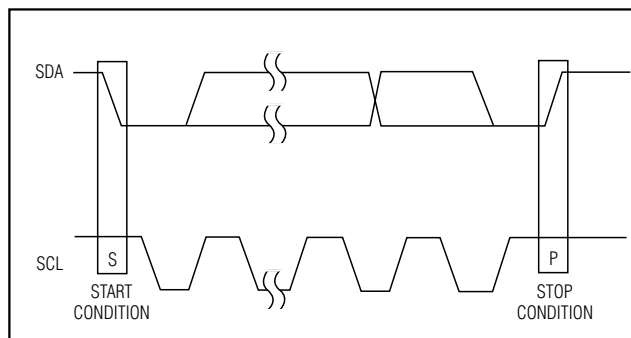

Figure 5. Start and Stop Conditions
Both SCL and SDA remain high when the interface is idle. The active master signals the beginning of a transmission with a START (S) condition by transitioning SDA from high to low while SCL is high. After communication, the MAX9485 issues a STOP (P) condition by transitioning SDA from low to high while SCL is high, freeing the bus for another transmission (Figure 5). If a START or STOP occurs while a bus transaction is in progress, then it terminates the transaction.